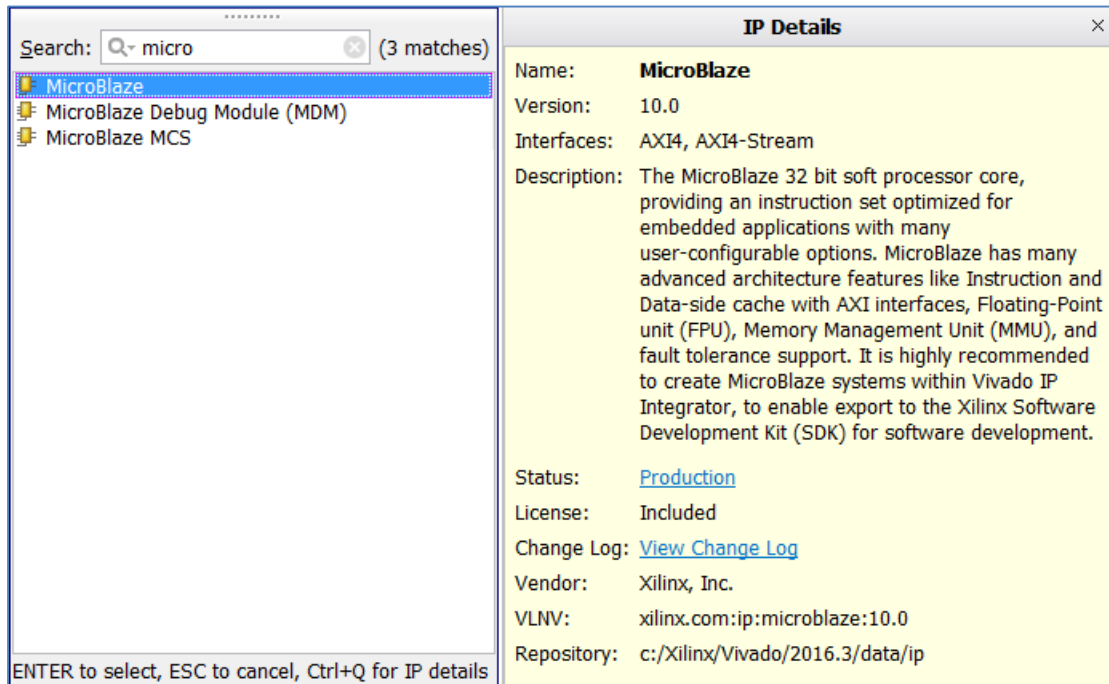

Figure 87: Search Field
- As shown in Figure 87, type **micr** in the Search field to find the MicroBlaze IP, then select **MicroBlaze** and press the **Enter** key.